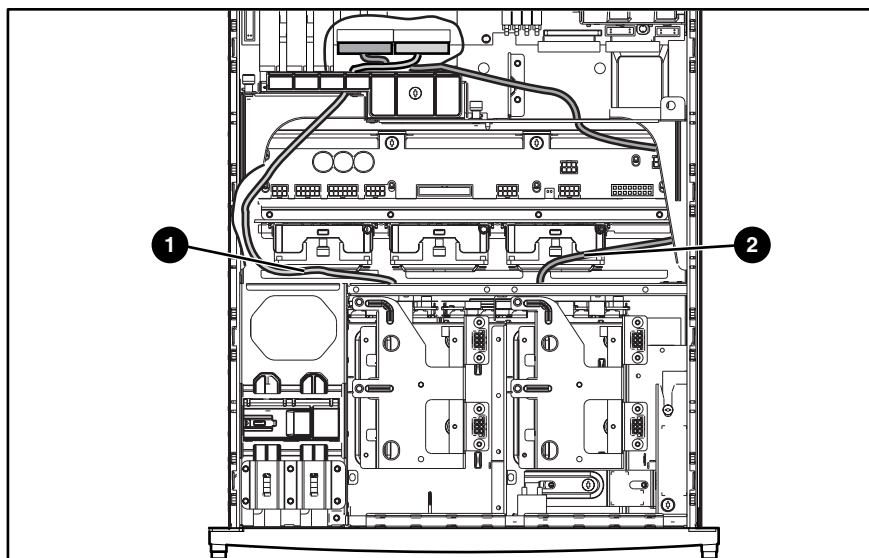
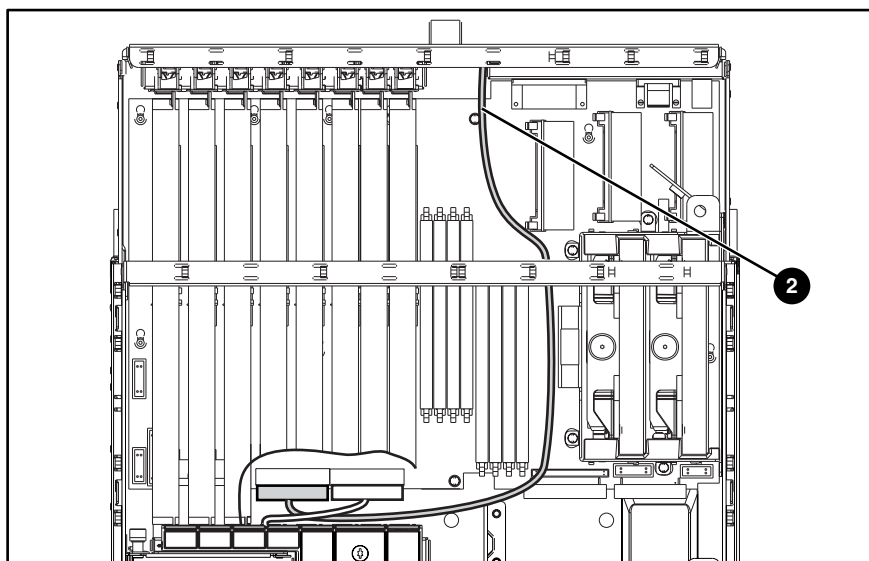

Figure 2-19. Signal cables for SCSI hard drives and removable media devices
Figure 2-20. Optional signal cable routing for external devices with SCSI channel B
2. Signal cables for SCSI hard drives and removable media devices (blue and yellow cables). See Figure 2-19 and Figure 2-20.